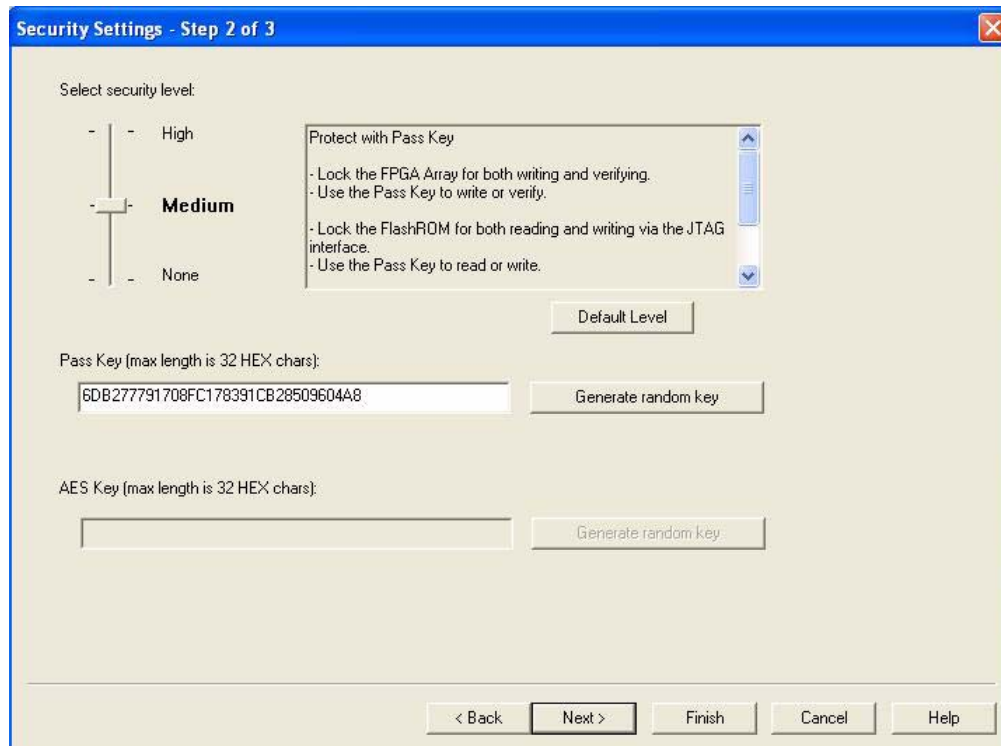

Figure 17-12 • Medium Security Level Selected for Low-Power Flash Devices
2. Choose the appropriate security level setting and enter a FlashLock Pass Key. The default is the **Medium** security level (Figure 17-12). Click **Next**.